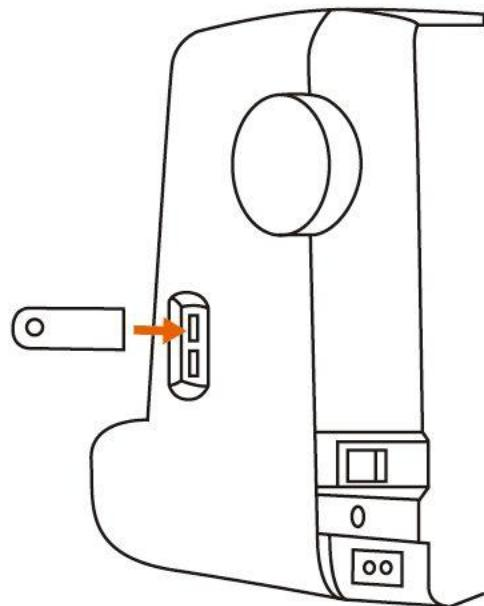

图12 Figure 12
- ① 把本机支持的格式花样导入到U盘，然后将口盘插入机器USB接口，图12
Import the patterns in format supported by the machine into the USB disk, and then insert the USB disk into the USB interface of the machine in Figure 12.